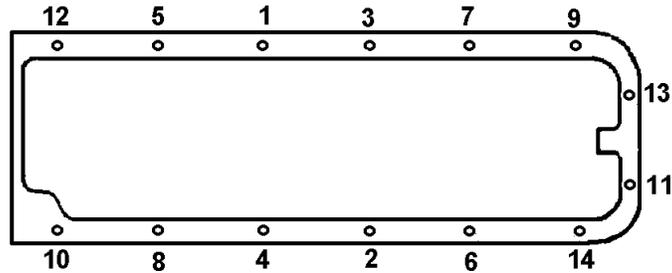

FIGURE 19-10. OIL SUMP TORQUING SEQUENCE
See Figure 6-13 for oil sump hardware. See Figures 6-10 and 6-10A for accessory case hardware. Using the torque sequences shown in Figures 19-10, "Oil Sump Torquing Sequence" and 19-12, "Accessory Case Torquing Sequence," first torque the oil sump nuts (6) to 50 inch pounds preliminary torque. Torque the accessory case nuts (34), bolts (35) and bolt (36) to 100 inch pounds preliminary torque. Insure the accessory case and oil sump pull up to the crankcase evenly.
Using the torque sequences shown in Figures 19-10, "Oil Sump Torquing Sequence" and 19-12, "Accessory Case Torquing Sequence," torque the oil sump nuts (6) to 90-110 inch pounds final torque and torque the accessory case nuts (34), bolts (35) and bolt (36) to 180-220 inch pounds final torque.